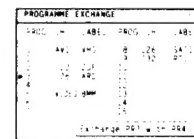

Fig. 16.
- 5 Using \rightarrow or \leftarrow , select the programme position to be exchanged and press OK. Now the two programme positions have been exchanged. (See Fig. 16.)